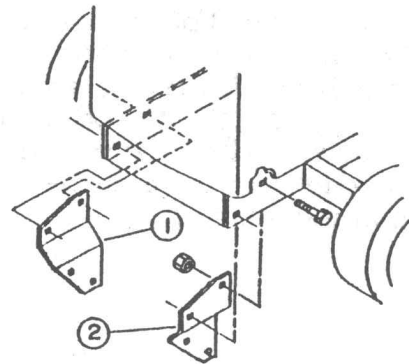

FIGURE 10
- c) Install front support brackets (fig. 10, item 1-2) inside the front of the tractor frame, using four 3/8 X 1" hex bolts, and nuts with the bolt heads on outside tighten securely all the subframe bolts according to torque specification table.